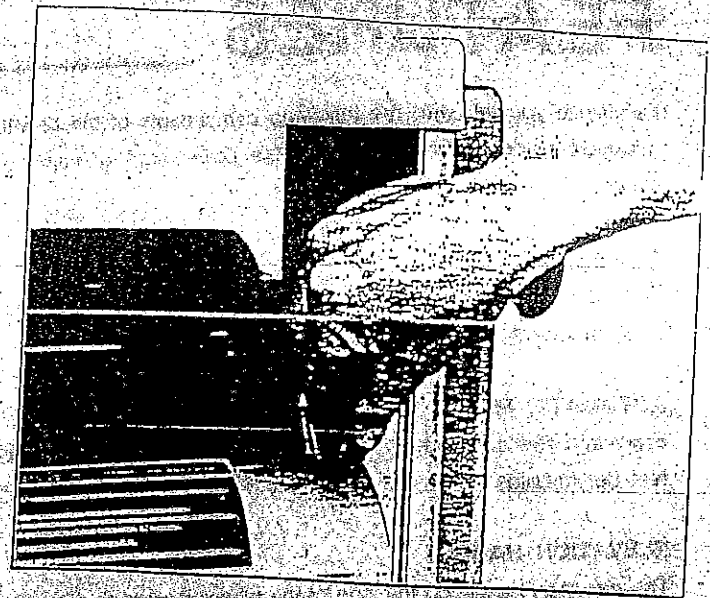

figure 2
3. Attach the dust cover to the roller case above the rear feed roller (Figure 2). Use the two wing bolts provided and tighten them securely by hand.